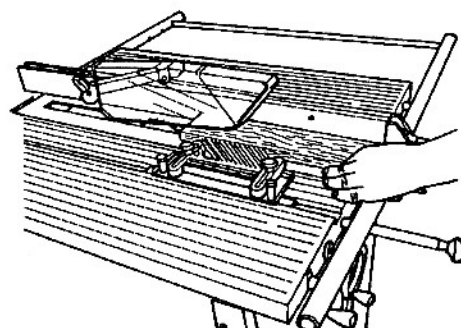

Fig. D-20
2. Place the feather board in **front** of the saw blade, as in Fig. D-20.